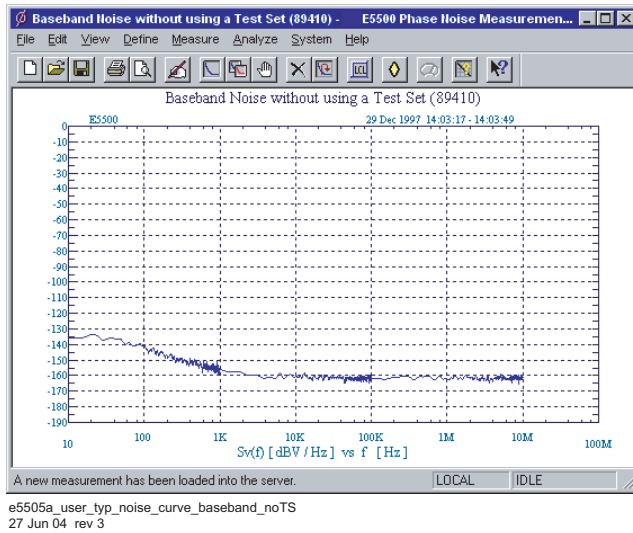

Figure 259 Typical curve for a baseband without test set measurement.
- Figure 259 on page 331 shows a typical phase noise curve for a baseband noise measurement without using a test set.